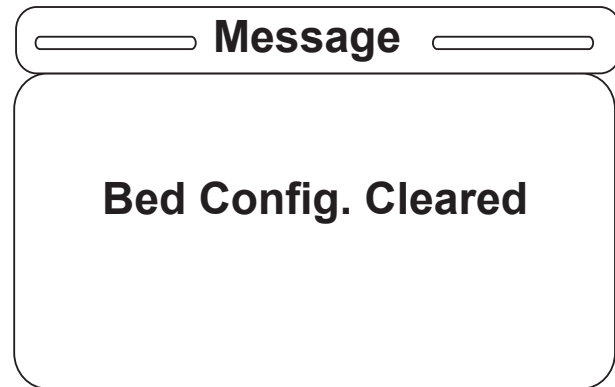

Figure S-38
- Once the user hits "Enter," the previously set Bed Config. items (Bed Type, Bed Options, Serial Number, Height Limits or Fowler Limits) will be erased and the message in Figure S-38 will be displayed.